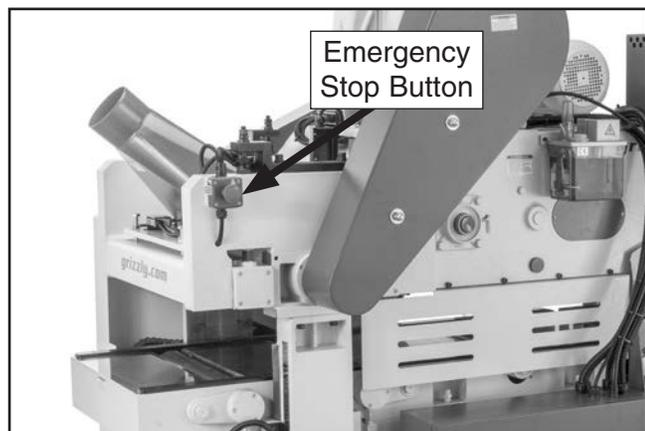

Figure 33. Location of rear Emergency Stop button.
19. Push Emergency Stop button on rear of machine (see **Figure 33**) and wait 30–40 seconds for cutterheads to come to complete stop.